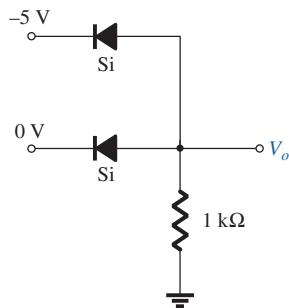

FIG. 164
18. Determine V_o for the negative logic OR gate of Fig. 164.